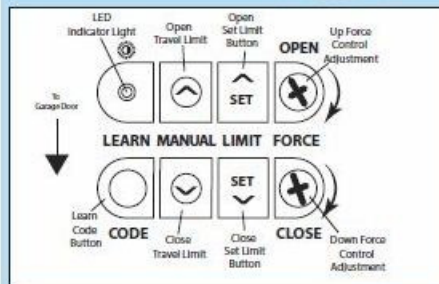

FIG 7-1 Learn code button and LED
- Locate "Learn Code"  button and indicator LED on the power head (Fig. 7-1).